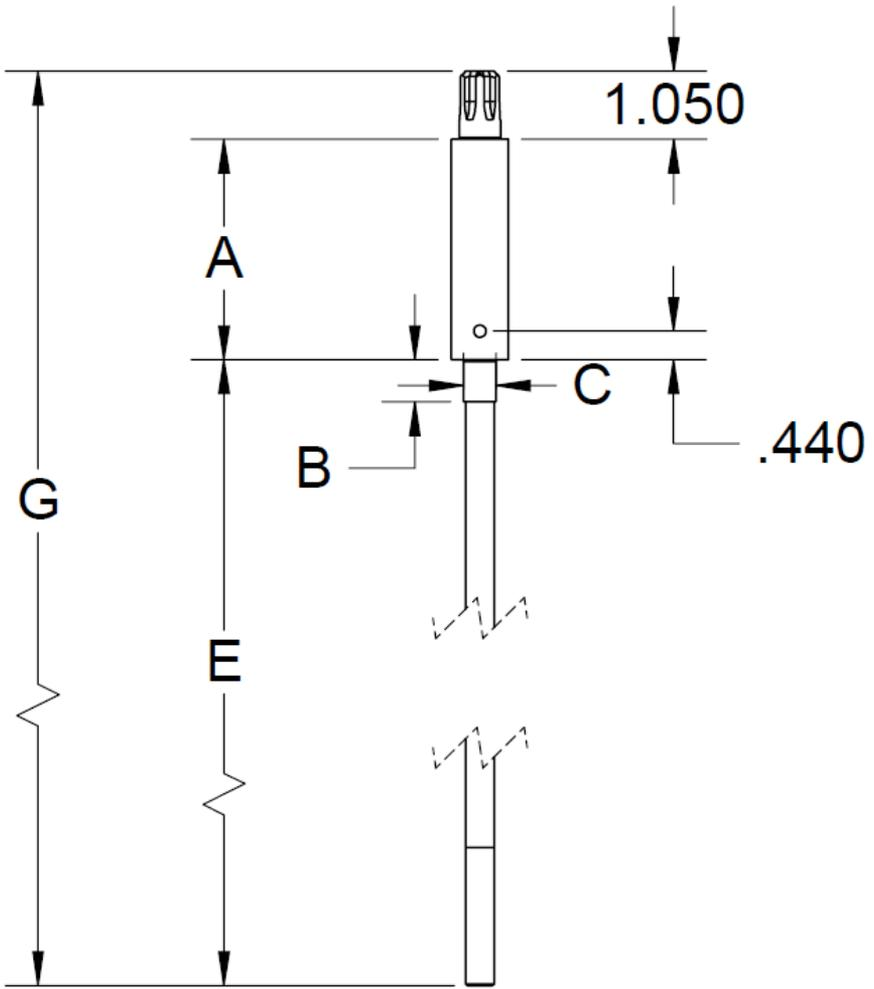

Figure 3
1. Attach the mounting bracket to the bottom of the IN-OUT Safety switch using (2) #10-32 X 3/8 flat head cap screws.
- Remove the (2) upper SHCS from the power-feed selector cover on your machine. Install (2) #10-24 x 7/8 or M5X 20mm BHCS through the mounting bracket, feed selector cover, and into the machine.
- On some machines, it may be necessary to space the IN/OUT safety switch away from the machine. Included in the hardware kit are (2) optional 1.00" spacers and (2) #10-24 X 1-7/8" or M5 x 45mm BHCS. (see FIGURE 3)